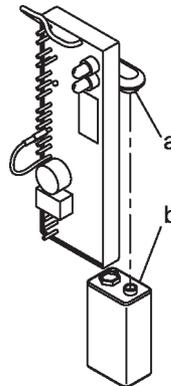

Fig. 10: Battery replacement
4. Insert new battery into the connection clip (see Figure 10).